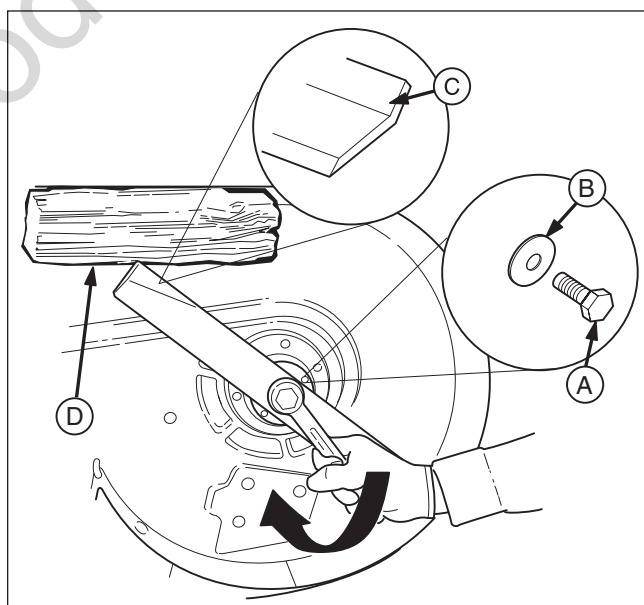

Figure 26. Tightening the Mower Blade for Installation
1. Reinstall each mower blade with the air lifts pointing up towards the mower deck as shown in Figure 26. Secure with the mower blade mounting bolt and flat washer (**A & B, Figure 26**) and torque to 70 ft. lbs (94 Nm).